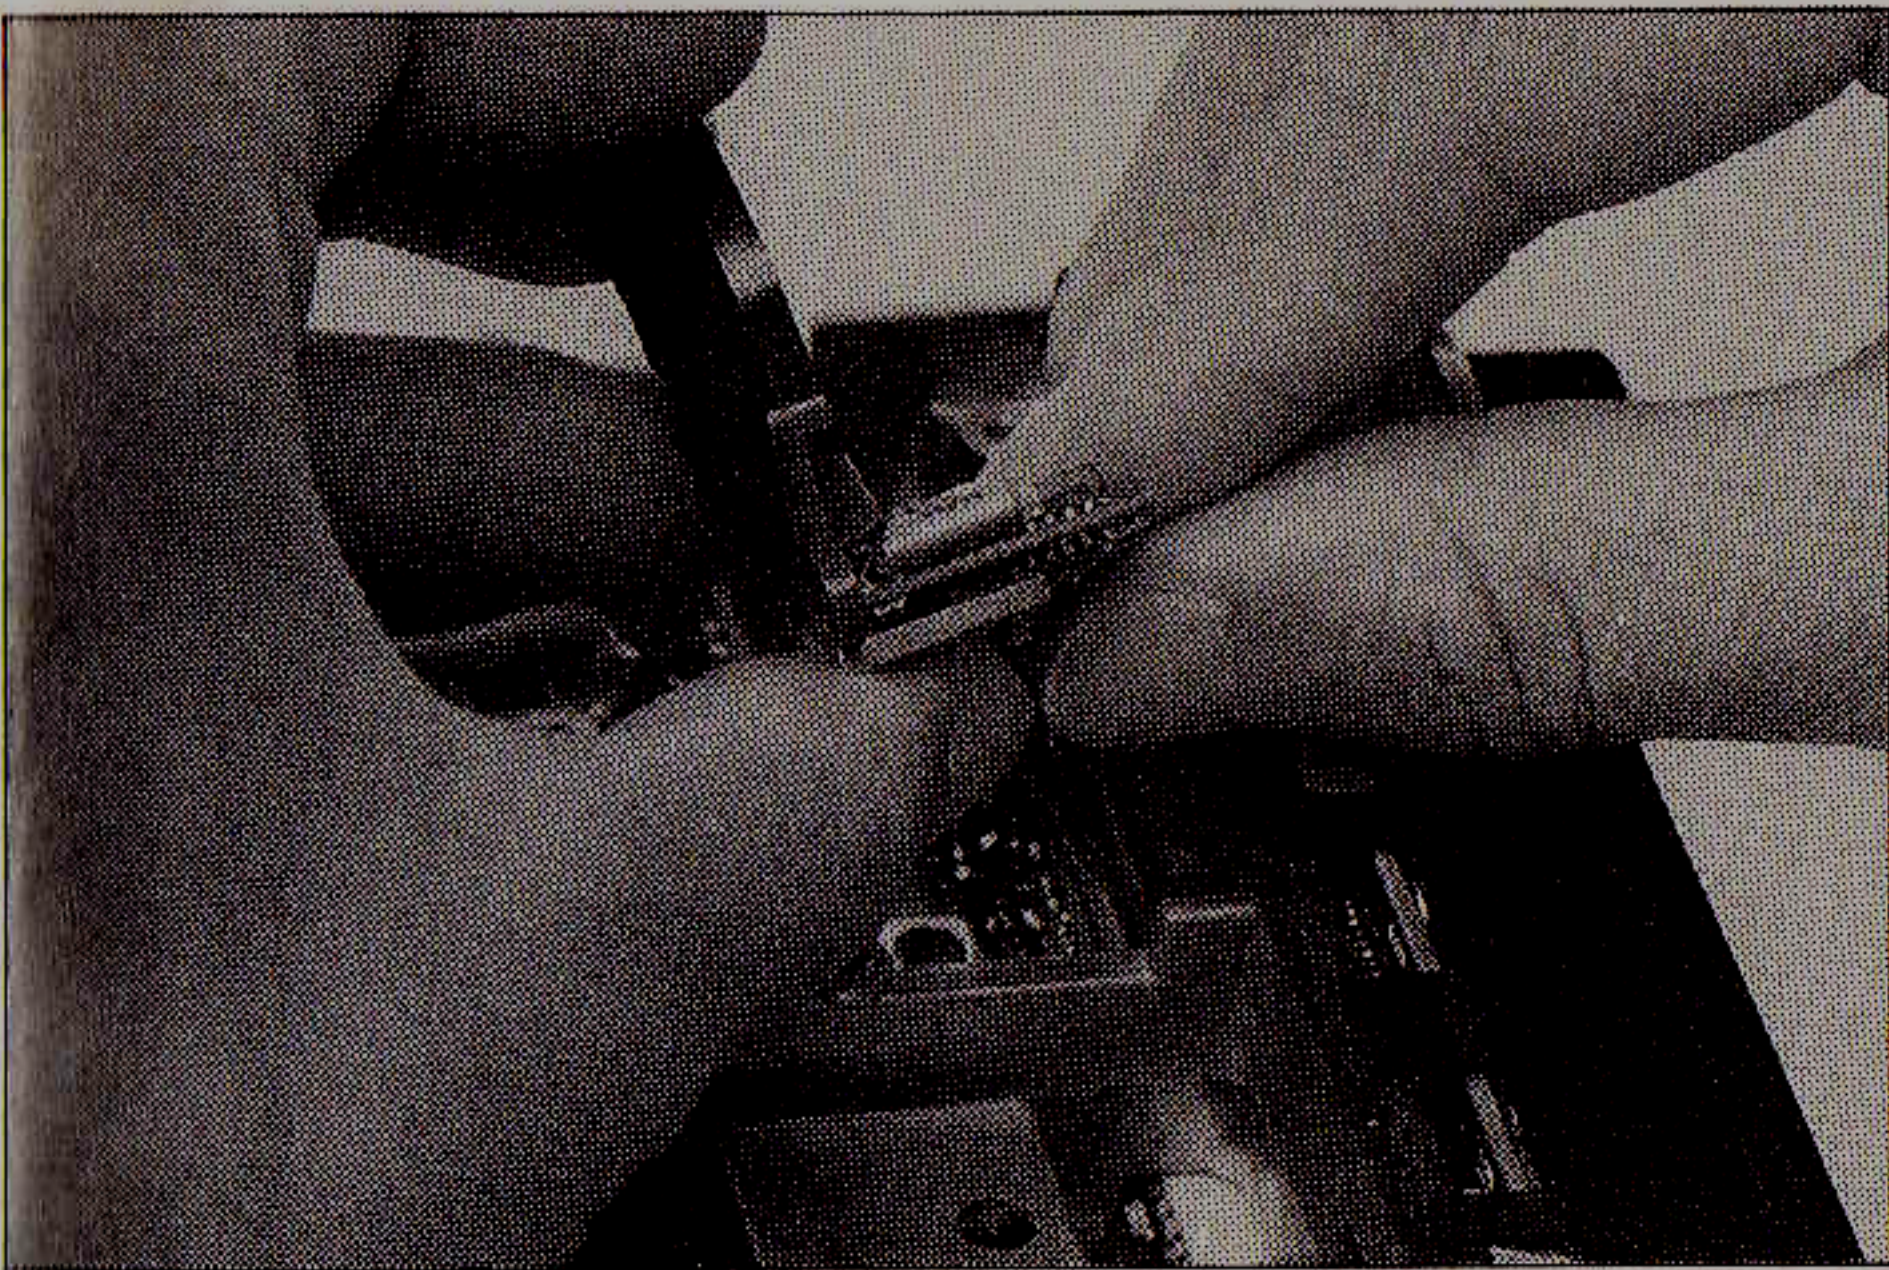

Figure 4
- (5) Press the FTS-12 into the clip on the speaker holder (Fig. 4). The output tone level (VR1 on the FTS-12) is adjusted at the factory for the proper deviation, so no adjustment is needed.
- (6) Replace the speaker holder and its three screws, and replace the speaker in the holder. Then replace the bottom cover and its four screws, and retighten the two screws on each side.